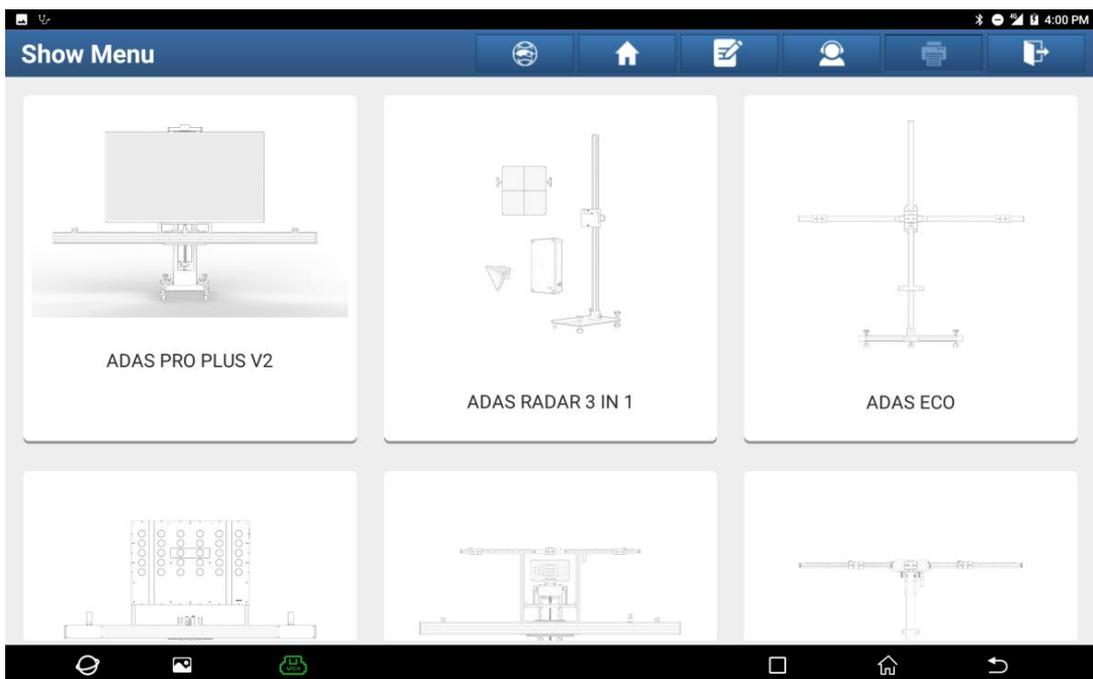

Figure 6
6. If the target is ADAS Mobile type, choose [ADAS Mobile] (as shown in Figure 6).